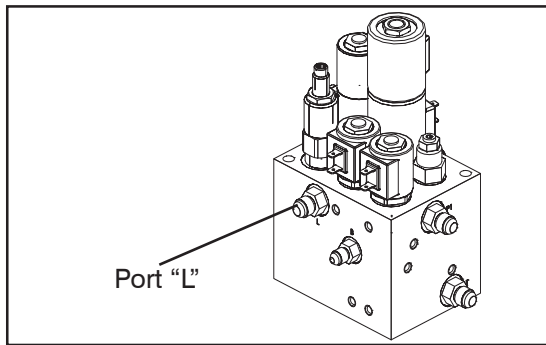

Figure 5-31. Lift Cylinder Hydraulic Hose Installation
10. Install the lift cylinder hydraulic hose back to the main manifold port L. See Figure 5-31.